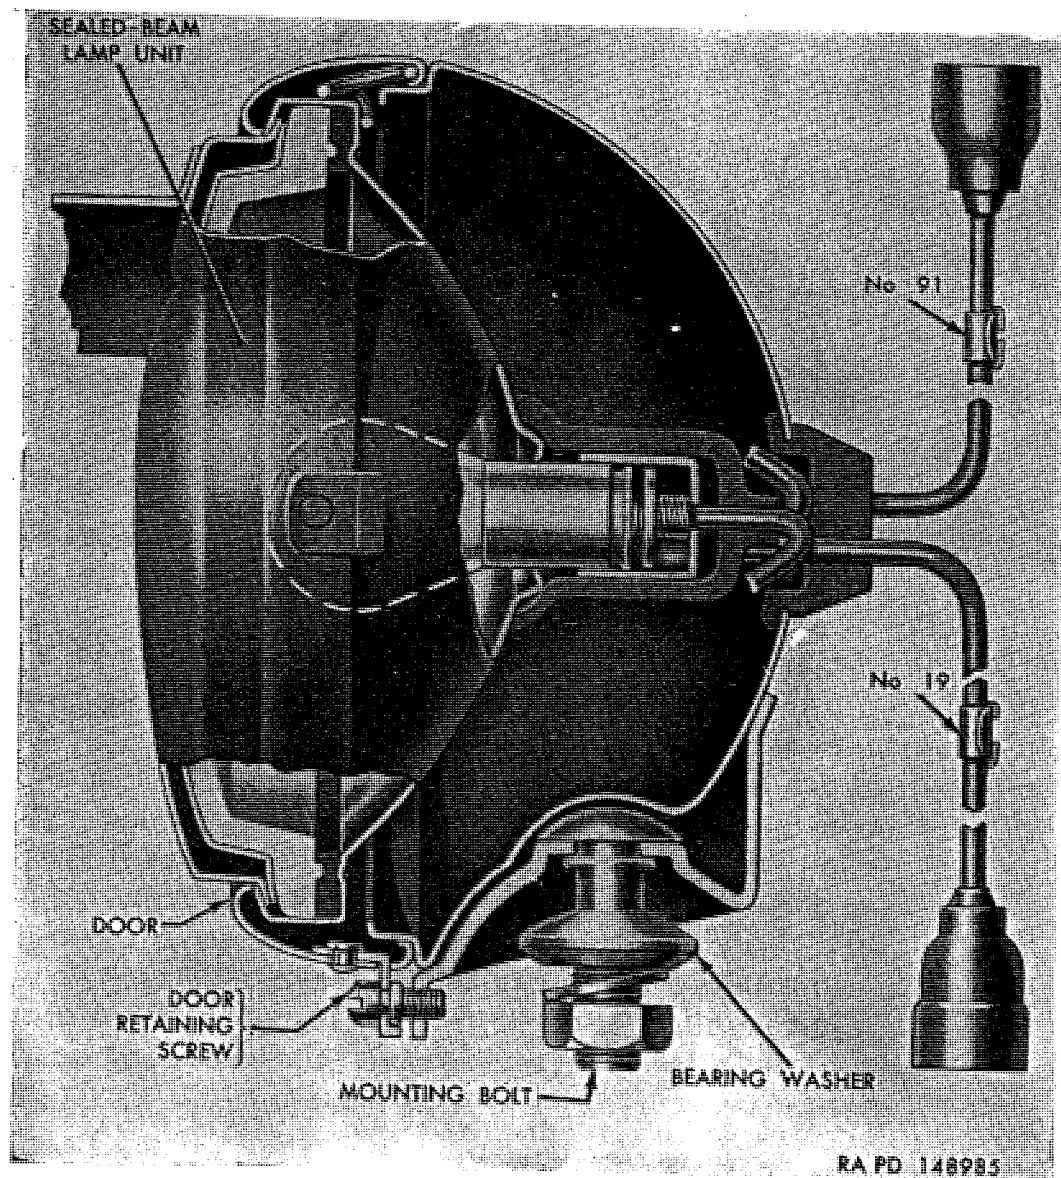

Figure 164. Sectional view of blackout headlight.
a. Sealed-Beam Lamp Unit Replacement (fig. 164).
- (1) *Removal.* Unscrew three screws attaching door to light body and remove door. Pull sealed-beam lamp unit out of body, disengage connectors from clips in body, and disconnect cables at connectors.
- (2) *Installation.* Connect cables on new sealed-beam lamp unit to cables in body, making sure numbers on cables are matched. Engage connectors in clips in body. Position sealed-beam unit in body, install door, and attach with three screws.